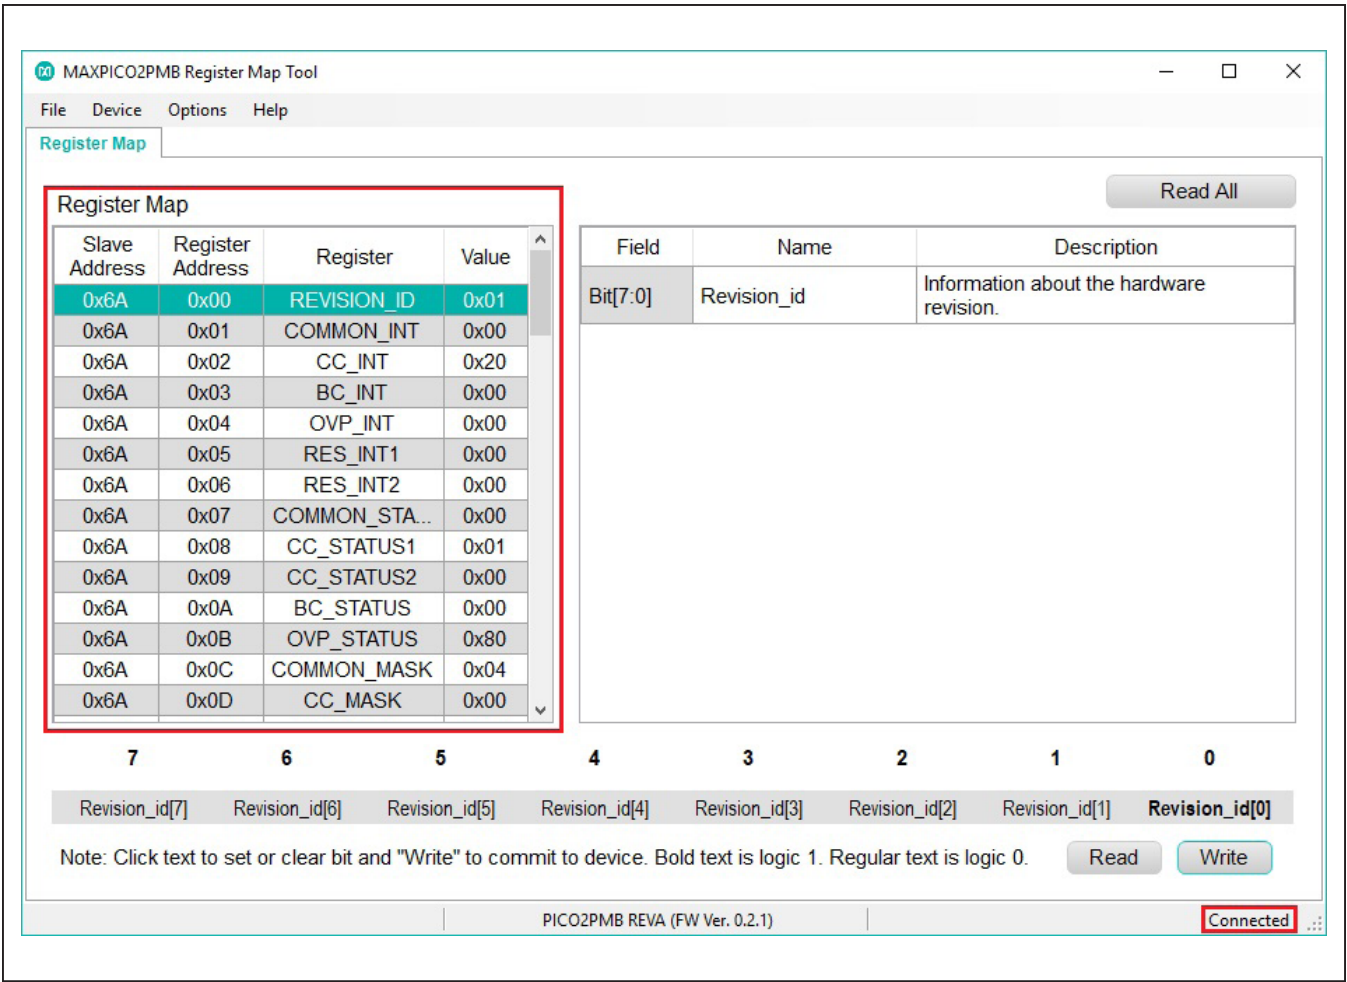

Figure 9. Open the MAX20342 Regmap File in MAXPICO2PMB Register Map Tool
- 0x6A. All MAX20342 specific details are filled in the **Register Map** tab, and default register values are loaded (see Figure 9).